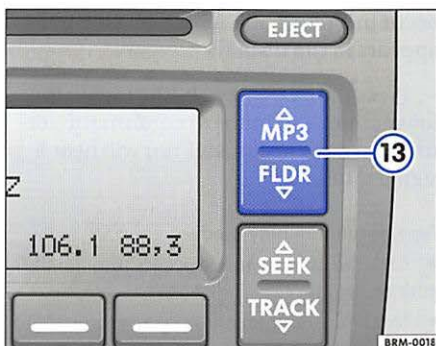

Fig. 20 Radios without Satellite Digital Radio Service
- Press button ⇒ fig. 20 13 to select the desired folder or play list (to scroll upward or to scroll downward through the folders or play lists).